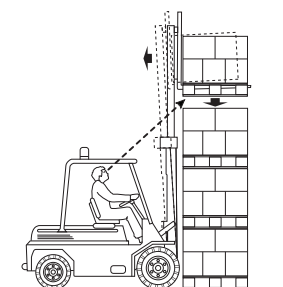

Figure 10
- Lift the load clear of the stack and carefully apply a backward tilt, just sufficient to stabilise the load (Figure 10);